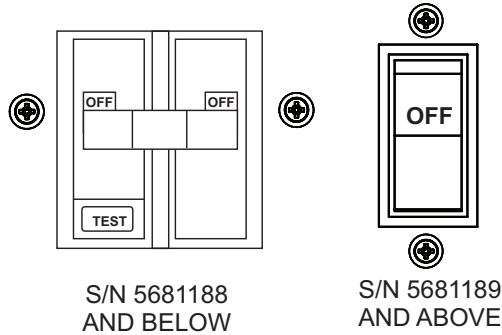

Figure 27. Main Circuit Breaker (OFF)
1. Place **main** circuit breaker (Figure 27) in the **OFF** position.